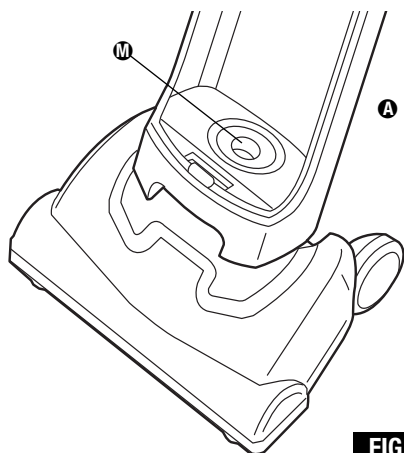

FIG. 8
**Step 2:** Inspect for blockages inside hole area **M** at base of body **A** opening. Use tool or coat hanger to remove blockage (Fig. 8).